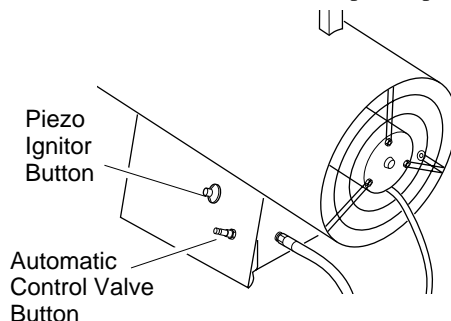

Figure 5- Automatic Control Valve Button and Piezo Ignitor Button
6. Push in and hold automatic control valve button (see Figure 5). Push piezo ignitor button (see Figure 5). You may need to push piezo ignitor button 3-8 times until the burner lights. When burner lights, keep automatic control valve button pushed in. Release button after 30 seconds.